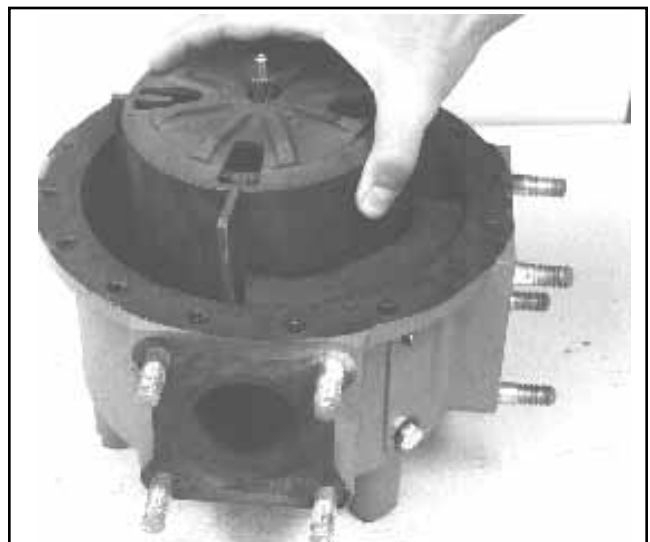

**Figure 4**
- At reassembly, care must be taken that the jackshaft gear, Figure 3, and rotor gear, Figure 4,